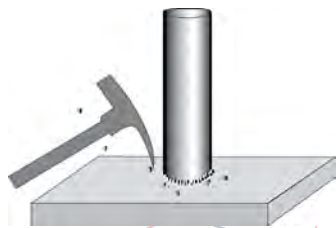

Figure 27: Chipping away weld flux residues
- Welding flux residues are chemically inert in the pickling solutions commonly used by galvanizers; therefore, their existence will produce rough surfaces and coating voids. If a coated electrode is used, all welding flux residues must be removed by wire brushing, chipping, grinding, pneumatic needle gun, or abrasive blast cleaning (*Figure 27, left*).